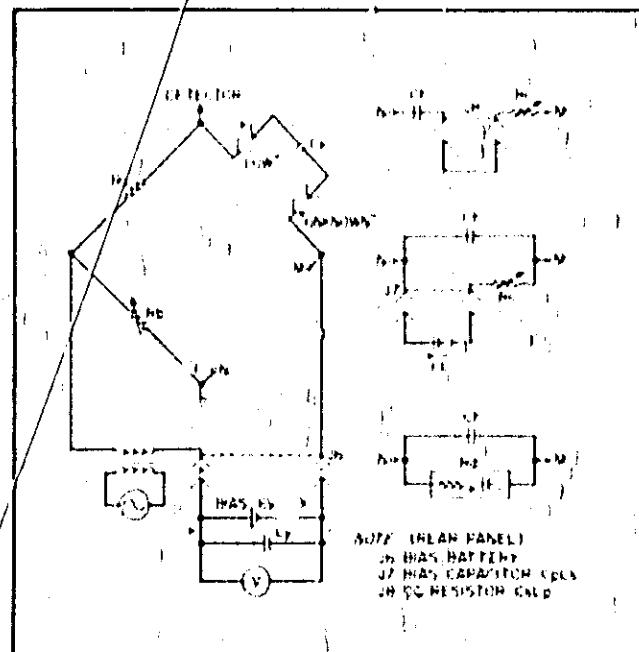

Figure 3-5. De Biased Capacitance Measurement
3-55. GENERAL. A de bias voltage (6 vdc maximum) can be applied to capacitors such as electrolytic types during the C measurement. Figure 3-5 schematically illustrates the de bias application. Operating procedure for de-biased measurements is described below and pictorially shown in Figure 3-5. The following equipment will be required:
a. Connect the measurement setup as shown in Figure 3-5. All instrument cabinets except 4260A must be isolated from power line ground.